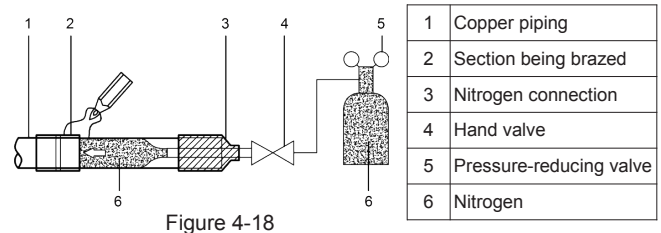

Figure 4-18
- When the pipe is filled with nitrogen during welding, the nitrogen must be reduced to 0.02 MPa using the pressure release valve. See Figure 4-18.